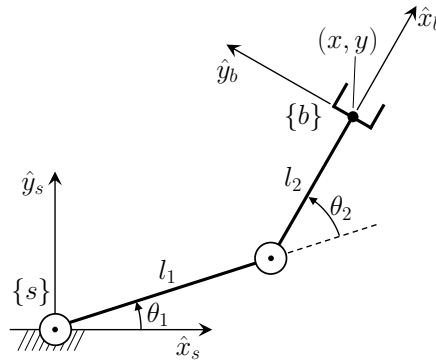

Figure 2: A 2R Planar Robot.
- Consider a 2R planar robot as shown in Figure 2. Let  $\boldsymbol{\theta} = (\theta_1, \theta_2) \in \mathbb{R}^2$  be the joint angles of the robot,  $\mathbf{x} = (x, y) \in \mathbb{R}^2$  be the coordinates of the origin of end-effector frame  $\{b\}$  with respect to the fixed base frame  $\{s\}$ , and  $l_1$  and  $l_2$  be the length of the links (assume that  $l_1 = l_2 = 0.3$  m).